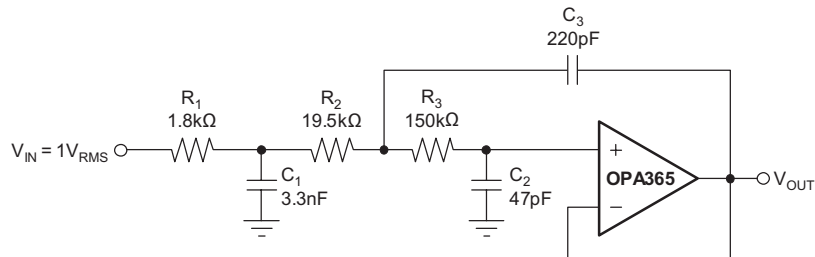

Figure 27. Configured as a 3-Pole, 20 kHz, Sallen-Key Filter
3. using a noninverting filter topology such as the Sallen-Key (shown in Figure 27).